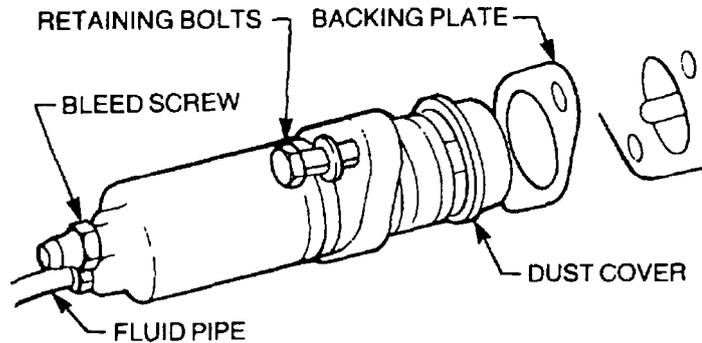

Figure 9 Slave Cylinder
- bb.** Remove the bolts securing the clutch slave cylinder to the transmission bell housing. Remove the hydraulic pipe bracket from the starter motor stud and remove the slave cylinder complete with dust cover and backing plate (Figure 9).